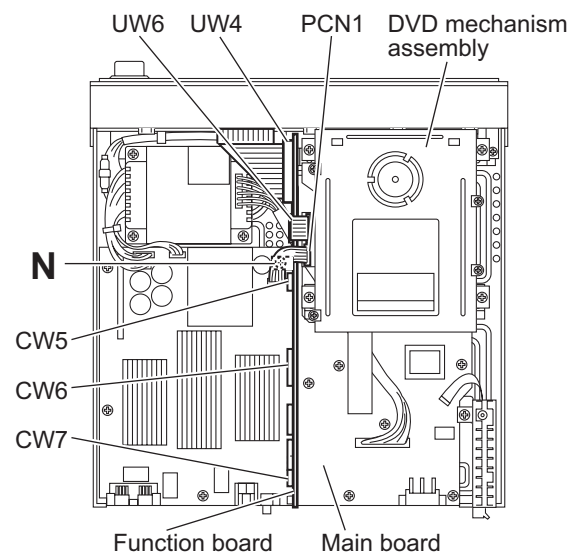

Fig.13
3.1.9 Removing the function board (See Fig.13)